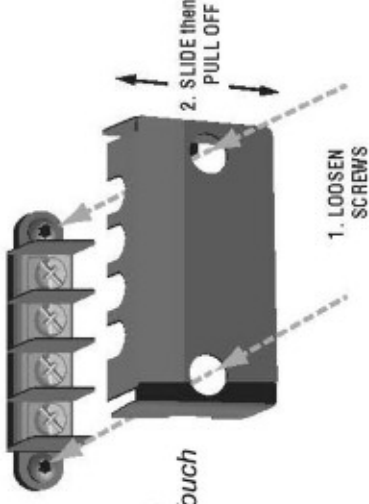

Figure 2.6 How to Remove the No-Touch Cover
1. Loosen screws inside top and bottom holes of cover (see Figure 2.6).